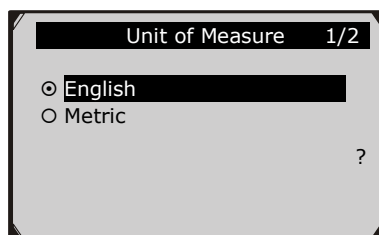

Figure 3.6
- 2) From **Unit of Measure** screen, use the **UP/DOWN** scroll button to select the desired unit of measurement. (Figure 3.6)